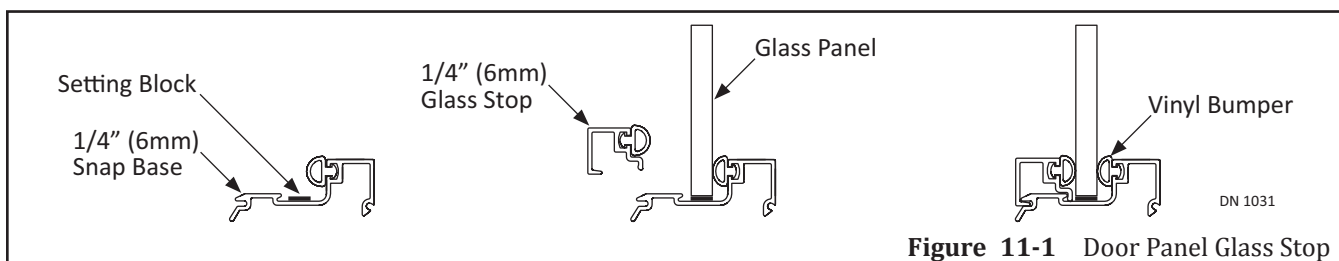

Figure 11-1 Door Panel Glass Stop
3. Install the Setting Blocks (not provided by NABCO) and Glass Panel. Please see Figure 11-1.
3. Install the Setting Blocks (not provided by NABCO) and Glass Panel. Please refer to Figure 11-1.